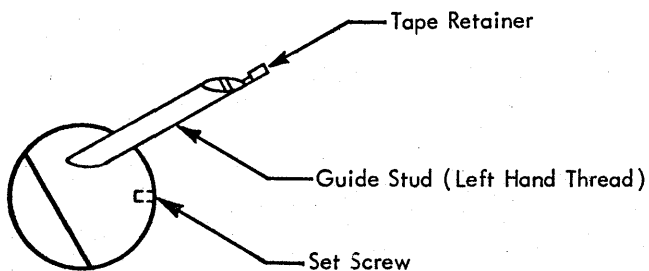

Figure 4-13. CRF Tape Guide
1. Loosen the CRF tape guide set screw (Figure 4-13).
3. Position the tape retainer (Figure 4-13) on the guide assembly so that the left edge is  $\frac{1}{32}$ " from the tape by loosening the slotted guide stud.